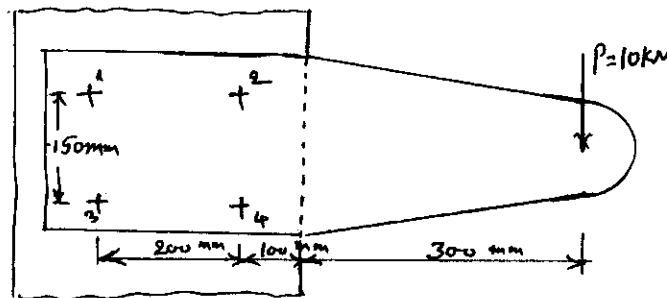

Fig.Q4(b)
- b. Determine the size of the bolt for the loaded bracket as shown in Fig.Q4(b). All the bolts are identical. The bolts are made from plain carbon steel 30C8 and factor of safety is 2.5. Take $\sigma_y = 400 \text{ N/mm}^2$. (10 Marks)